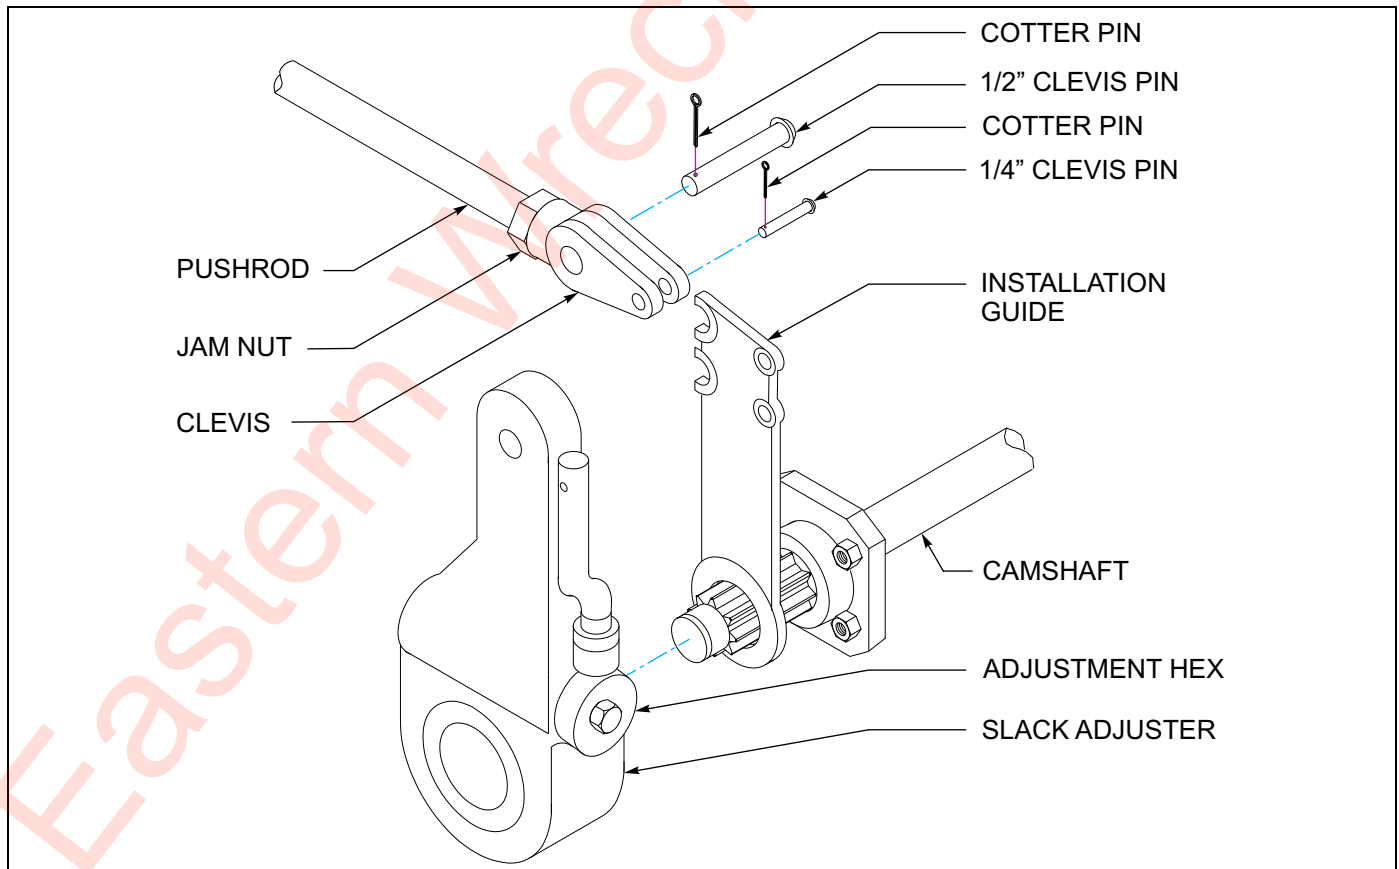

Figure 4-11: Slack Adjuster
4. Disconnect the slack adjuster from the connecting rod by removing the clevis pin (See Figure 4-11.)
4. Remount the brake chamber on the axle brackets and reconnect the air service hoses and the slack adjuster connecting rod (See Figure 4-11.)
2. Check that the push rod is fully retracted, apply air to release spring brake (See Figure 4-11.)